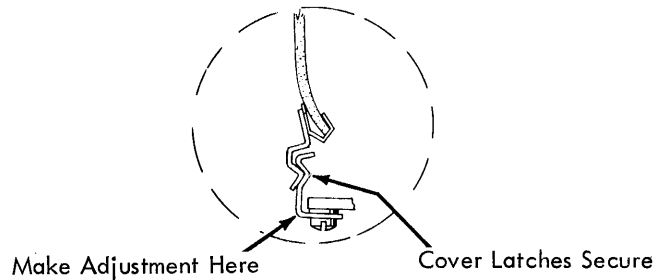

FIGURE 281. Center Cover Latch
2. Center Cover Latch (Fig. 281) - Position so that the top cover is latched securely in the closed position.